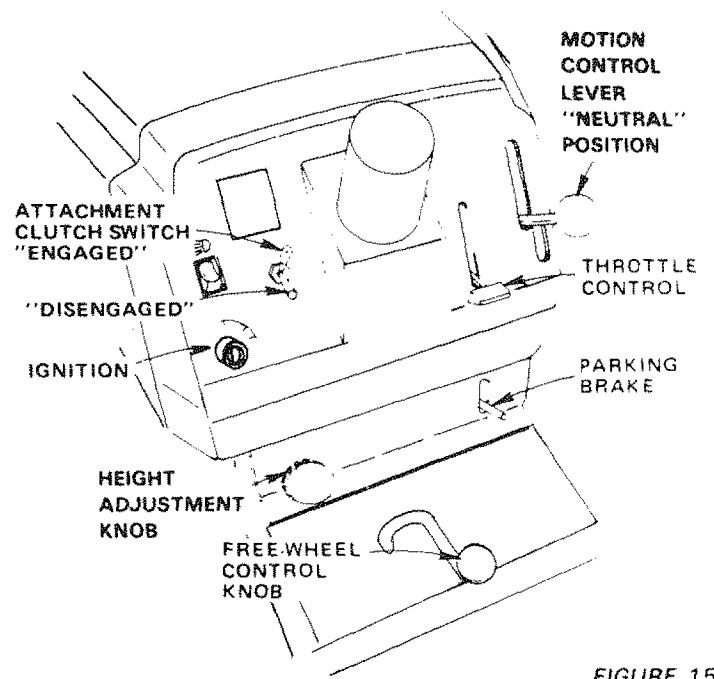

FIGURE 15
- Place attachment clutch switch in "DISENGAGED" position (Fig. 15).
- Place motion control lever in "NEUTRAL" position (Fig. 15).
- Move throttle control lever (Fig. 15) past "FAST" to the "CHOKE" position.
- a. Select desired height of cut position using height adjustment knob (Fig. 15).